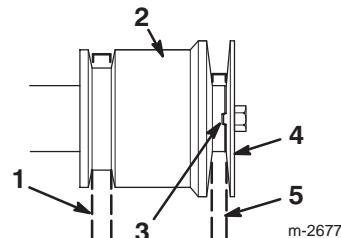

Figure 27
Note: Do not to pinch the traction drive belt (Fig. 27).
15. Install the engine pulley sheave, ensuring that the indexing rib in the engine pulley sheave aligns with the indexing notch in the engine pulley (Fig. 27).
16. Install the washer, lock washer, and crankshaft bolt that secures the engine pulley sheave (Fig. 27).
Note: Do not to pinch the auger/impeller drive belt (Fig. 27).
Note: Ensure that the indexing rib in the engine pulley sheave aligns with the indexing notch in the center engine pulley. Do not pinch the belt (Fig. 27).